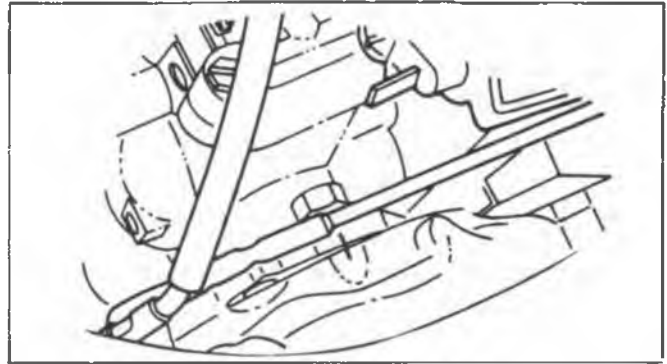

Fig. 2-21 Pump Alignment Marks
9. Scribe or paint an alignment mark on the pump flange and front cover (Fig. 2-21).